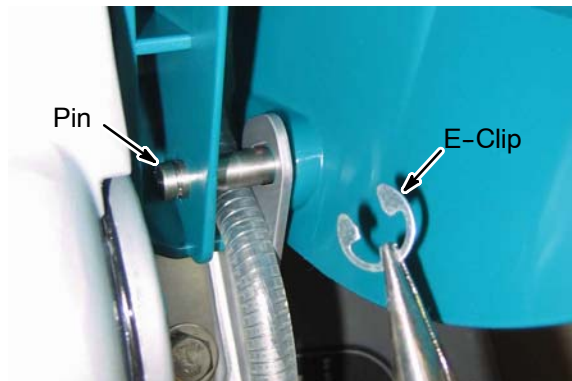

Fig. 1
1. Remove the cover from the machine by removing two E-clips and pins (Figure 1). Set cover aside.